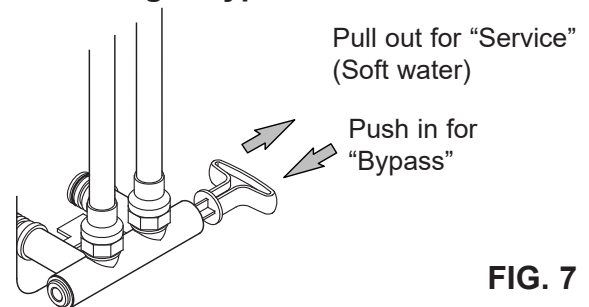
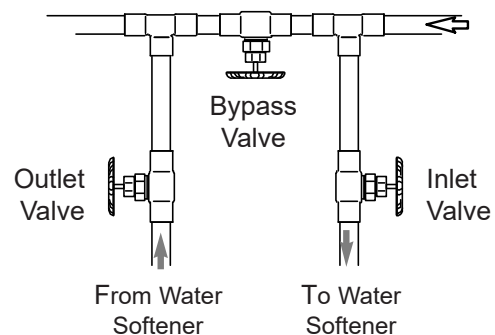

FIG. 7
FIG. 8
Always install either a single bypass valve (provided), as shown in Figure 7, or, if desired, parts for a 3 valve bypass system (not included) can be purchased and assembled, as shown in Figure 8. Bypass valves allow you to turn off water to the softener for maintenance if needed, but still have water in house pipes.
**CAUTION:** The house cold water pipe (metal only) is often used as a ground for the house electrical system. The 3-valve bypass type of installation, shown in Figure 8, will maintain ground continuity. If you use a plastic bypass valve at the unit, continuity is broken. To restore the ground, do the following:
2. Place the single bypass valve or 3 valve bypass in "bypass" position. See Figures 7 & 8.